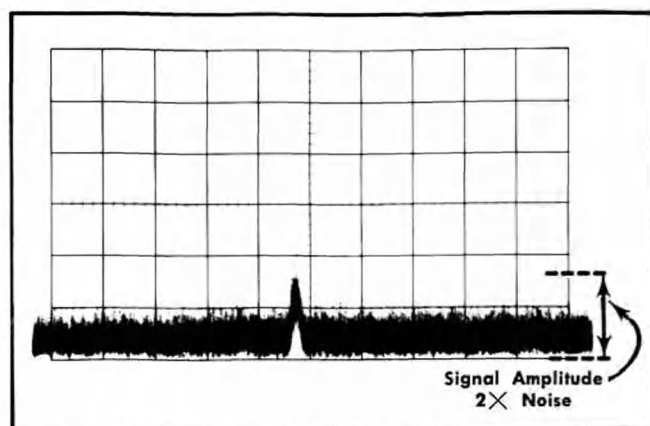

Fig. 5-25. Signal to noise ratio of 2:1 for measuring analyzer sensitivity.
e. Calibrate the signal generator output, then adjust the variable output attenuator control until the signal amplitude is two centimeters (twice the noise amplitude). See Fig. 5-25.